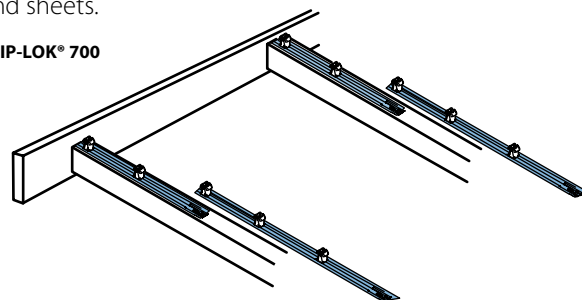

Figure 4
8. Position the first sheet so that the overhangs are of the desired amount (usually 50 mm) to the gutter. It is important to ensure this first sheet is placed squarely to adjacent edges (Refer figure 4).